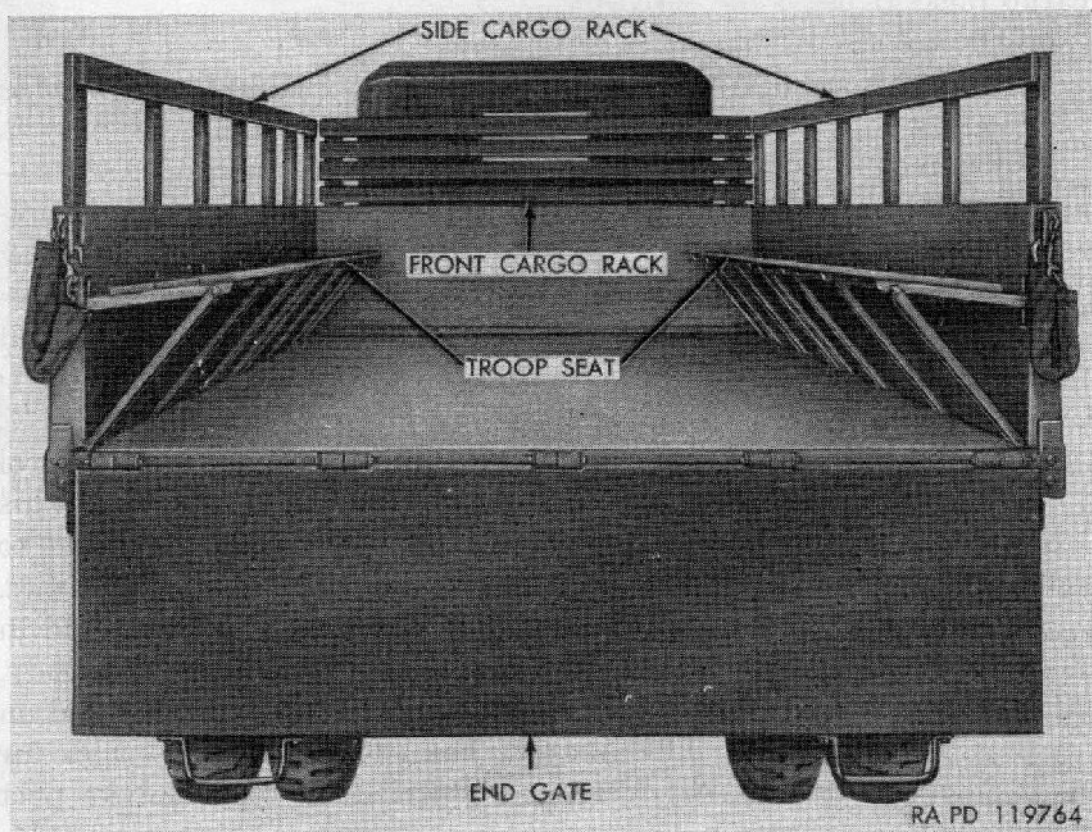

Figure 157. Troop seats—M36.
f. **TROOP SEATS.** (fig. 157).
(1) *Removal.* If seats are in position (fig. 157), detach from sides and remove; if used for cargo rack, lift side rack assembly from sockets and remove.